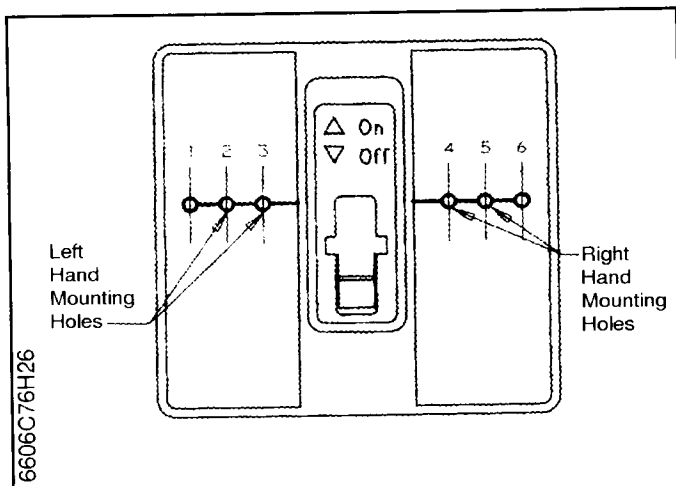

Fig. 2-1 Mounting Hole Locations
- 2-1. Mounting holes are located in the cover under the nameplate (Fig. 2-1).